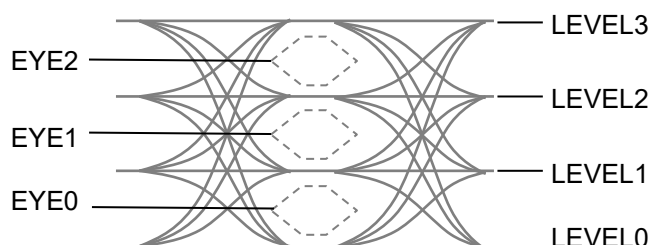

Figure 3.9.7-1 Positions of EYEs and LEVELs
*1: For the positions of LEVEL0 to LEVEL3, and EYE0 to EYE2, refer to Figure 3.9.7-1.